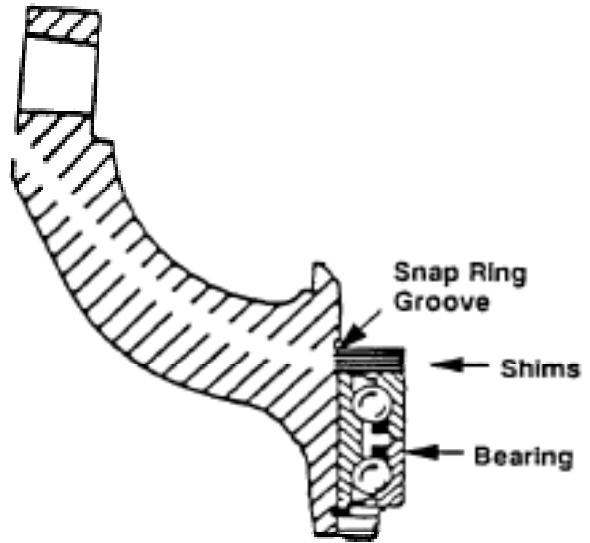

Figure 3. Place enough shims (see table) on the bearing to eliminate the space between the bearing surface and the snap ring groove.
- Place enough shims (see table) on the bearing to eliminate the space between the bearing surface and the snap ring groove (Figure 3).